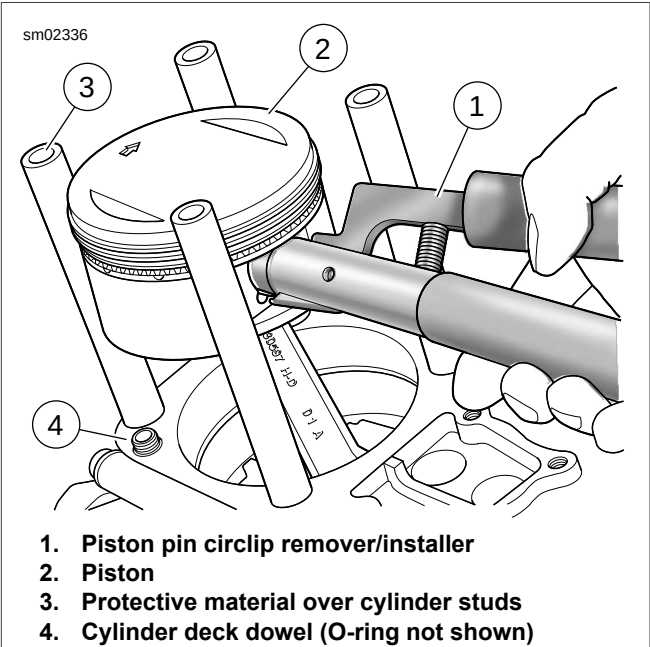

Figure 3-28. Piston Pin Circlip Removal
- See Figure 3-28. Remove O-ring from dowel pin (4) on base of cylinder deck. Discard O-ring.
- See Figure 3-28. Using PISTON PIN RETAINING RING INSTALLER (Part No. HD-42317-A), remove and discard one piston pin circlip.
- Insert tool (1) into the piston pin bore. Position claw on tool in slot of piston (2) (directly under circlip).